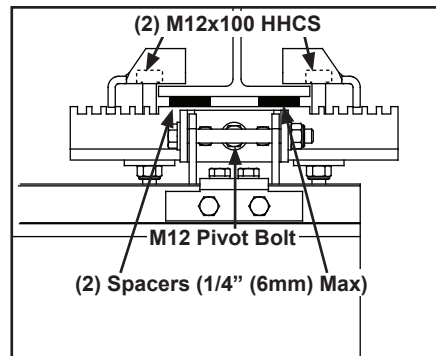

Figure 3-35
- Step 2. If leveling is required, loosen M12 x 100 mm HHCS, I-Beam bracket bolt and insert spacers, maximum 1/4 in (6 mm), between I-Beam bracket and bottom flange of I-Beam. See Figure 3-35
- Step 3. Install two (2) M10 x 110 mm HHCS with M10 nylock nuts. **Tighten until bolts are snug + 1/4 turn.** Do not over tighten. Over tightening could cause bracket to bend.